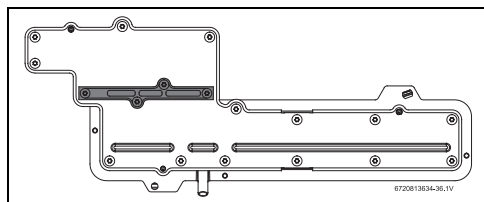

Fig. 37 Gas manifold
- ▶ Remove the four screws that retain the cover plate to the gas manifold, see fig. 37 (plate in grey color).